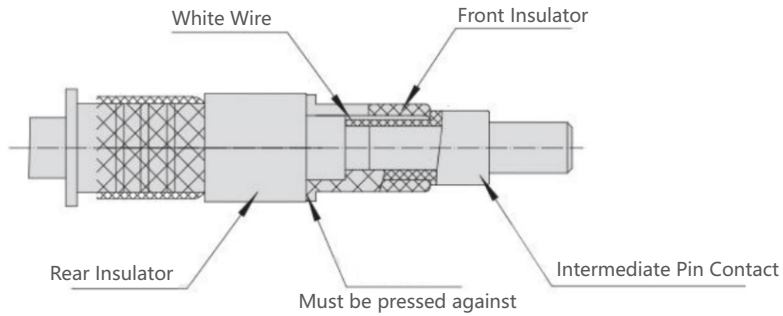

Figure 3.11
- ⑥ As shown in Figure 3.11, fit the intermediate pin contact and insulator assembly onto the internal socket contact. The conductor must be visible through the observation hole on the contact. The intermediate contact must be pressed against the tail of the insulator.